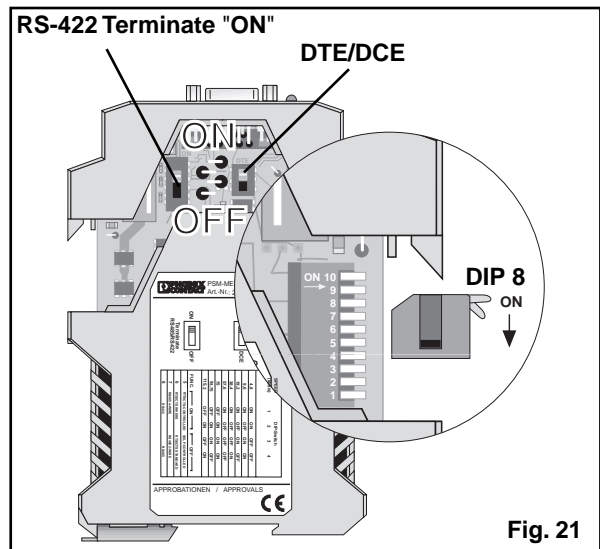

Fig. 21
- 1) Set the DIP switch 8 to position "ON" to activate the RS-422 operating mode (fig. 21).